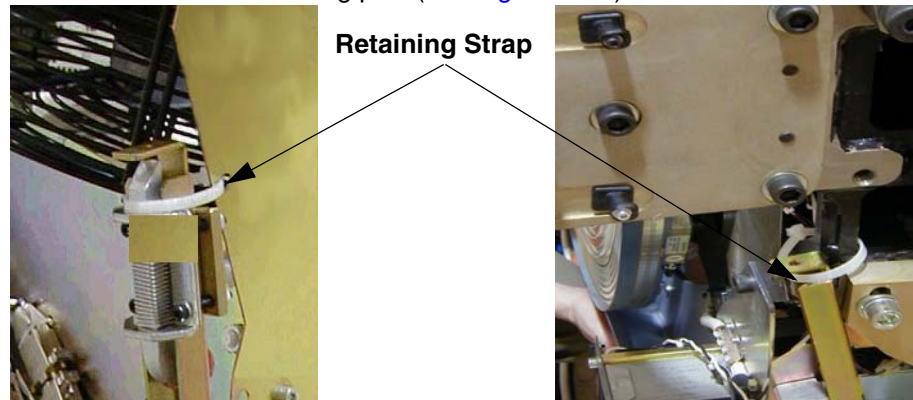

Figure A-22 Service position of upper and lower cantrell brackets.
- a.) Remove the upper cantrell brackets from the service position and rotate them into position over their associated retaining pins (see Figure A-22).
- c.) Remove the lower cantrell brackets from the service position (see Figure A-22), and rotate them into position over their associated retaining pins. Press down firmly on the bracket and snap it into place (see Figure A-24).